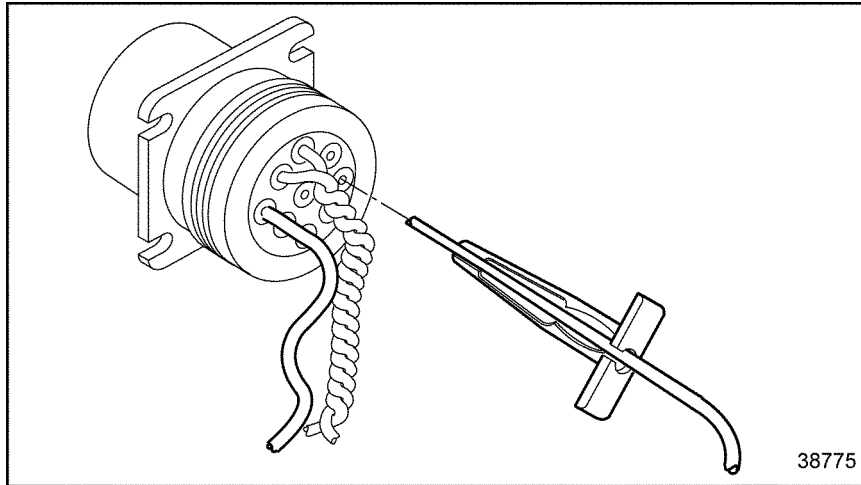

Figure 3-50 Removal Tool Insertion
- Slide the tool along the cable into the insert cavity until it engages and resistance is felt. Do not twist or insert tool at an angle. See Figure 3-50.